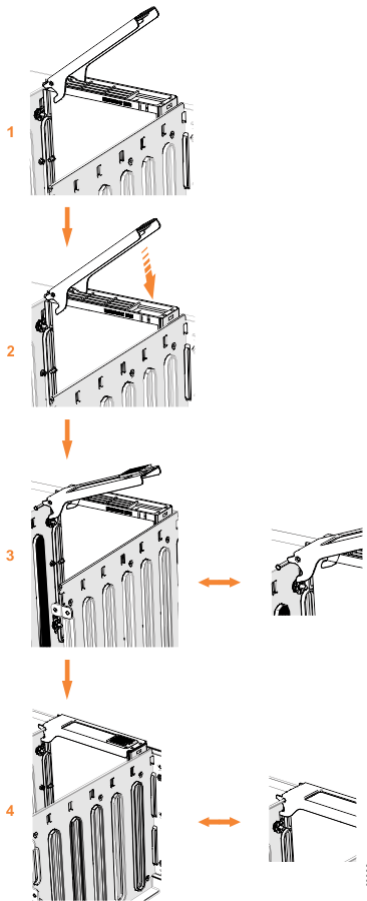

Figure 156. Replace the drive
14. Ensure that the drive handle (1 in Figure 156 on page 188) of the drive assembly is in the open (unlocked) position.
16. Lower the drive down, without pushing, until it stops and the bottom of the latch is aligned with the top of the partition. Ensure that the handle is not open more than 45 degrees from the drive carrier. (2 in Figure 156 on page 188). If the drive does not slide down easily then inform IBM remote technical support.
17. Rotate the handle down to lock the drive assembly into the chassis (3 in Figure 156 on page 188).
19. Ensure that the top toe of the latch is also fully engaged (4 in Figure 156 on page 188).